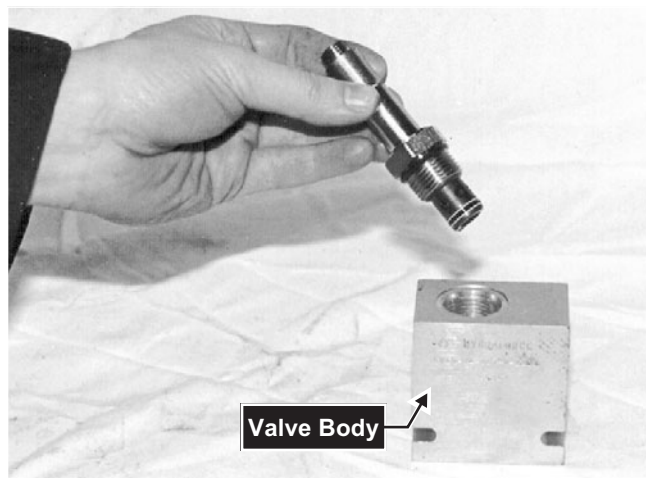

Fig. 8-53 Solenoid cartridge removed from the valve body.
2. Unscrew cartridge from the valve body. **Fig. 8-53**